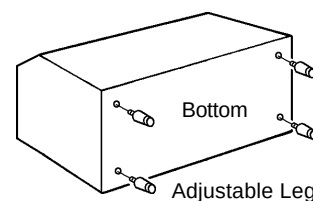

Fig. 3
1) Lay the Storage Bin on its rear side carefully to prevent damage. Secure the four adjustable legs (bin accessory) into the four tapped holes on the underside of the Bin. See Fig. 3.